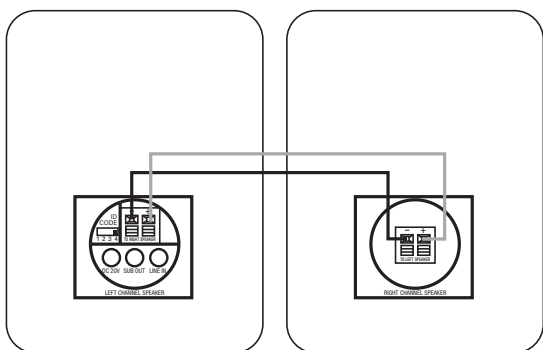

Figure 3.
See Figure 3. Please note that the speaker wire supplied features a polarity stripe to help distinguish its two conductors. Use this polarity stripe to ensure that you are connecting the positive (+) terminal on one speaker to the positive (+) terminal on the other, and the negative (-) to the negative (-). It does not matter whether you use the striped conductor for connecting the positive (+) terminals or the negative (-) terminals.
Step 3. Connect the speaker wire (included) to the push terminals on the active speaker ⑥ and the push terminals on the rear of the passive speaker ⑩, as shown in Figure 3. Please note that the speaker wire supplied features a polarity stripe to help distinguish its two conductors. Use this polarity stripe to ensure that you are connecting the positive (+) terminal on one speaker to the positive (+) terminal on the other, and the negative (-) to the negative (-). It does not matter whether you use the striped conductor for connecting the positive (+) terminals or the negative (-) terminals.
Step 4. Plug the transmitter module ⑫ and active speaker ⑦ into the wall outlet, using the correct power supply and power cord. Make sure the transmitter's antenna ⑪ is extended upwards.
Step 5. Make sure the ID code setting on the transmitter ⑬ is set to the same setting as that on the active speaker ⑤. See Page 8 of this manual for more information on ID codes. If necessary, configure your receiver to activate the preamp level outputs for the main/front channels (consult your source's owner's manual for specific instructions).
Step 3. Connect the speaker wire (included) to the push terminals on the active speaker ⑥ and the push terminals on the rear of the passive speaker ⑩, as shown in Figure 3. Please note that the speaker wire supplied features a polarity stripe to help distinguish its two conductors. Use this polarity stripe to ensure that you are connecting the positive (+) terminal on one speaker to the positive (+) terminal on the other, and the negative (–) to the negative (–). It does not matter whether you use the striped conductor for connecting the positive (+) terminals or the negative (–) terminals.
Step 4. Plug the transmitter module ⑫ and active speaker ⑦ into the wall outlet, using the correct power supply and power cord. Make sure the transmitter’s antenna ⑪ is extended upward.